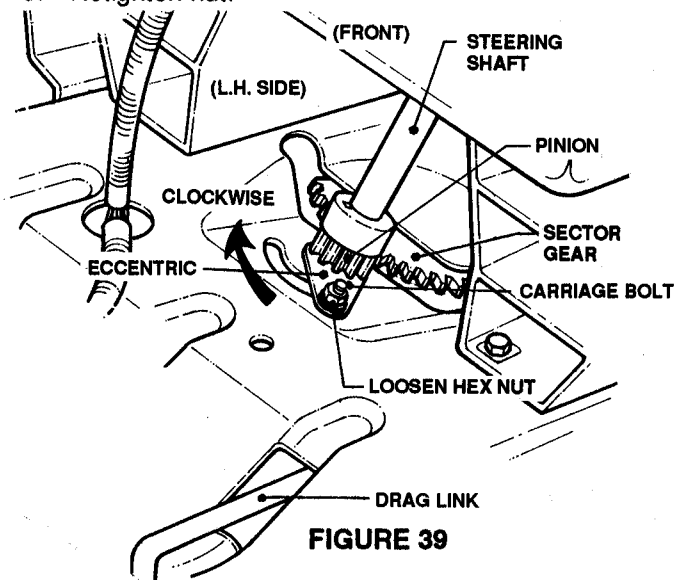

FIGURE 39
- Working from the left side of the tractor, use a 7/16" wrench to loosen nut on top of carriage bolt. See Figure 39.